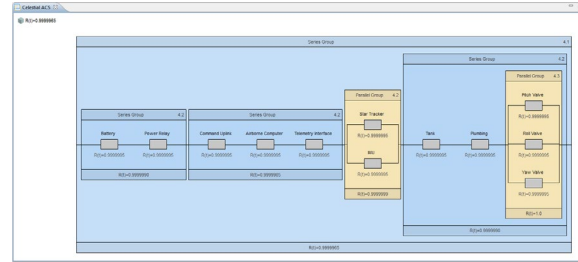

Figure B17: MADE Reliability Block Diagram (RBD)
- 2) Define/Refine the *Reliability Block Diagrams* (RBDs) attached to each element. The blocks in each RBD are automatically generated along with the system hierarchy and should be organized in appropriate parallel, series, and/or standby groupings to accurately represent the system (Figure B17).